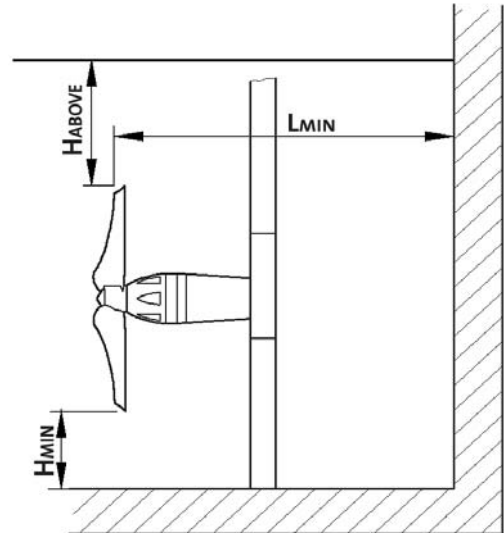

Fig. 5
- The distance between the propeller tip and the bottom of the tank should be 40-50 cm, H_{MIN} in fig. 5.
- The distance from the propeller tip to the liquid surface should be at least 0.75 times the propeller diameter, H_{ABOVE} in fig. 5.
- The distance between the propeller tip and the wall behind the flowmaker must be at least twice the propeller diameter, L_{MIN} in fig. 5.